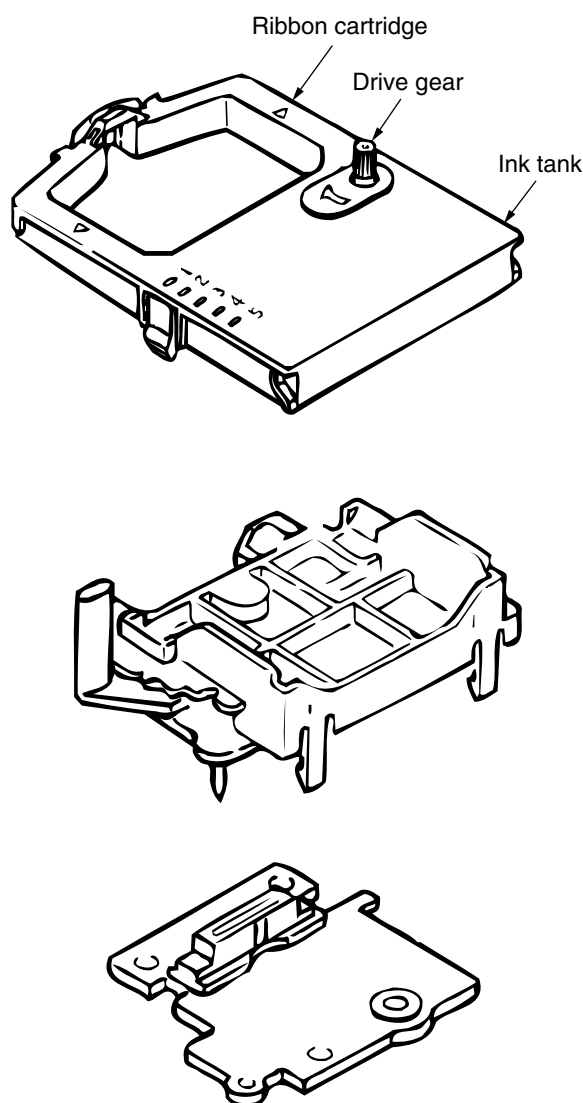

Figure 2-6
2.2.4 Ribbon Drive (See Figure 2-6.)